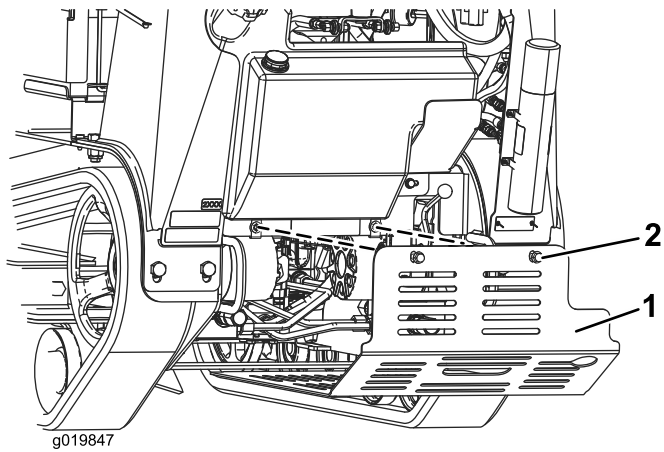

Figure 25
- Loosen the 2 bolts securing the bottom shield sequentially until the shield is free (Figure 25).
- To install the shield before operating the machine, slide the bottom shield into the machine so that it rests on all 4 tabs and secure it with the 2 bolts you loosened previously (Figure 25).